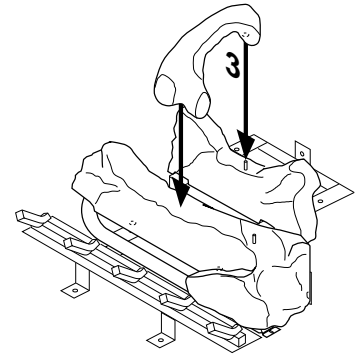

Figure 49 - Installing Log No. 3
3. Place log #3 ("C"-shaped crossover log) onto the rear and front logs. Make sure it is seated properly on the smooth surface on the front log and on the pin on the back log as shown in Figure 49.